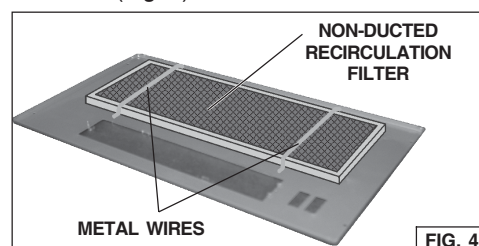

FIG. 4
2. Install the Non-ducted recirculation Filter over the grease filter and secure it with the metal wires supplied with the Non-ducted recirculation Filter (Fig. 4).
2. Remove the metal wires (Fig. 4) and replace the Non-ducted recirculation Filter.